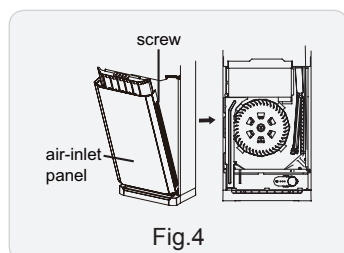

Fig.4
(1) Take out the left and right screw cover and then remove the screws on air-inlet panel to remove the panel. (As show in Fig.4)